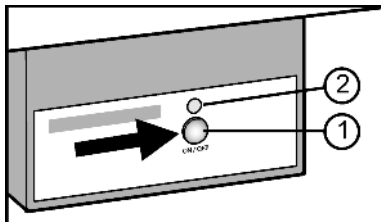

Fig. 7
- ▶ Press On/Off button Fig. 7 (1) so that the LED Fig. 7 (2) lights up.